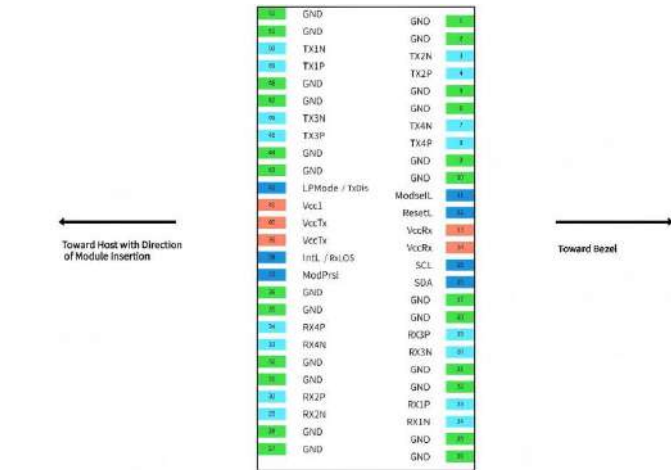

Figure4:QSFP112 Pin view
**Note2:** Vcc Rx,Vcc1 and Vcc Tx are the receiver and transmitter power supplies and shall be applied concurrently. Requirements,defined for the host side of the Host Edge Card Connector,are listed in Table 4.Recommended host board power supply filtering is shown in Figure 4.Vcc Rx,Vecc1and Vcc Tx may be internally connected within the QSFP112 module in any combination.The connector pins are each rated for amaximum current of 1.5A(max.current of 2.0 Ais required for high module power of15-20W).